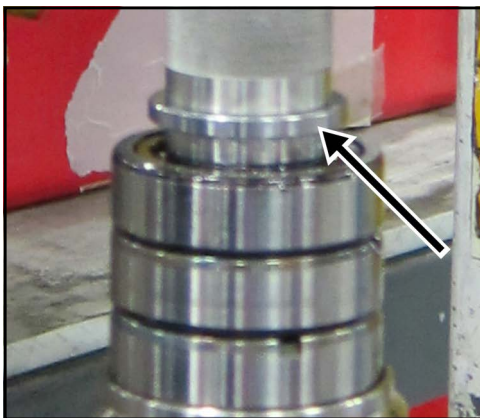

Figure 191 - Press gear spacer on drive shaft
33. Drive shaft only: Press the gear spacer onto the shaft until it contacts the cylindrical roller bearing already installed as shown in Figure 191.